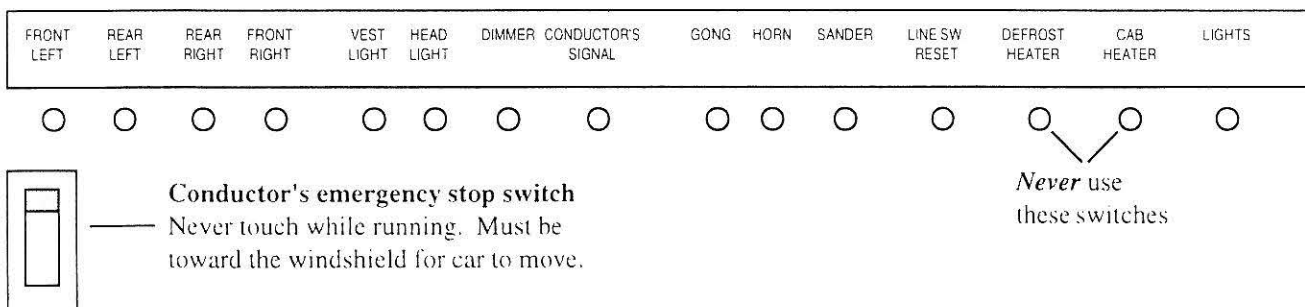

Figure 16. Gang Switch Controls – Detail
1. Sit in the motorman's seat. Look at the gang switch panel in front of you (figure 16), and make sure the four door switches at the left end of the panel are **down (closed)**. Locate the **Gong** and **Horn** switches (The **Horn** switch has a spring extension). The **Headlight** switch is on this panel, along with the **Bright/Dim** switch for the high/low beams. Some gang switches are not active when the Hook is not in **Forward** or **Reverse** position.